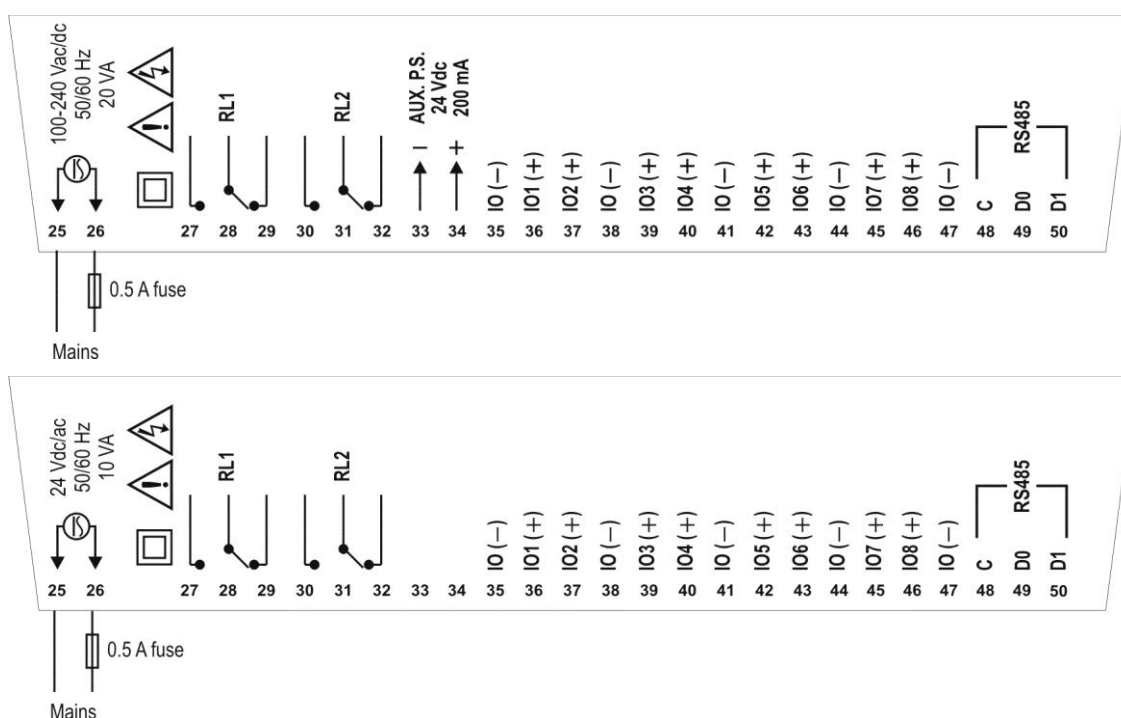
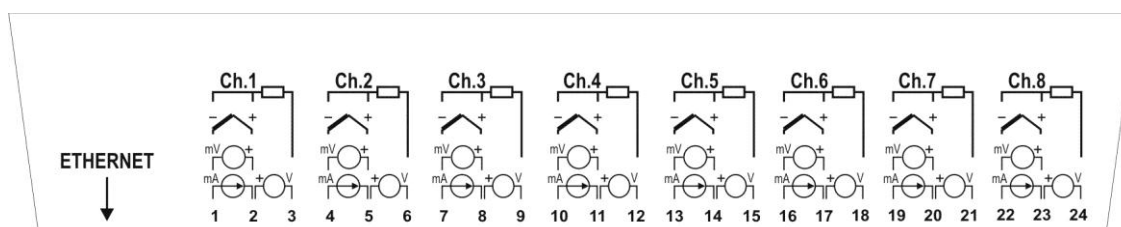

Fig. 14 - Upper side connections for standard and 24 V models
Fig. 15 - Lower side connections
**FieldLogger** has two rows of terminals for diverse connections; among them are the following items: Ethernet, input connections, power supply, output relays, auxiliary power supply output, digital inputs and serial communication. This information is identified in the box of **FieldLogger** according to Fig. 14 and Fig. 15: